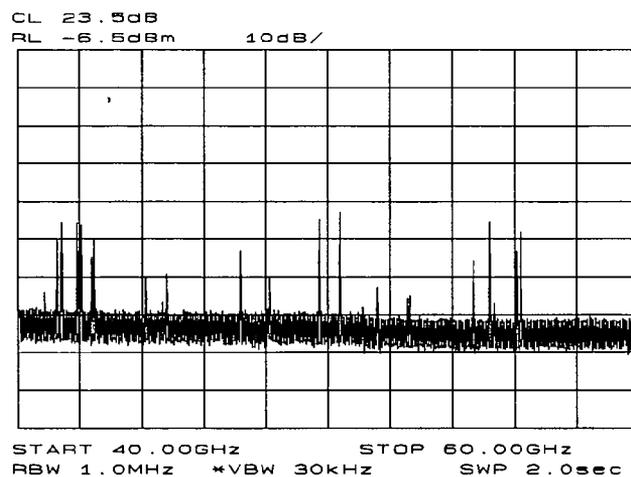

**Figure 3-32. Store and correct for conversion loss.**
- Table 3-1 lists default conversion-loss values that are stored in the analyzer for each frequency band. These values approximate the values for the HP 11970 Series Mixers. Other conversion-loss values may be entered into the spectrum analyzer in two ways. The first allows the user to save the average conversion-loss value for the entire band using **AVERAGE CNV LOSS**. To activate this function, press **AUX CTRL**, **EXTERNAL MIXER**, **AMPTD CORRECT**, **AVERAGE CNV LOSS**, then enter the appropriate average conversion-loss value. On HP 11970 Series Harmonic Mixers, these values are charted on the mixer. The U-band mixer used for this example had an average conversion loss of 35 dB, as depicted in Figure 3-32.